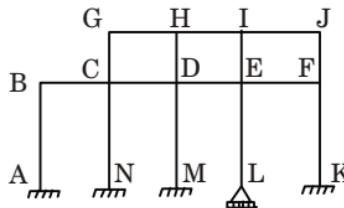

**Fig. 1.**
- a. The loading and support condition of a plane truss is shown in Fig. 1. Find the forces in member AB and BF.